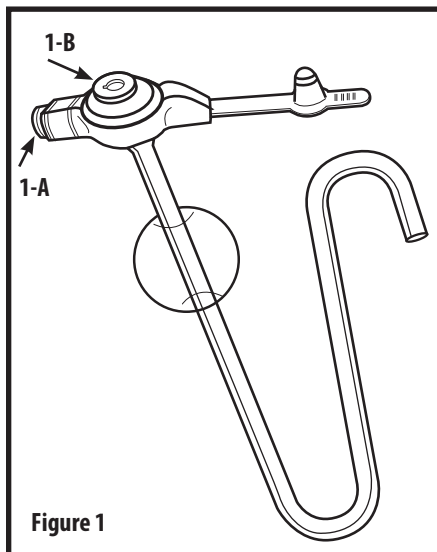

Figure 1
2. Using the 6 ml Luer slip syringe contained in the kit, inflate the balloon with 5 ml sterile or distilled water through the balloon port (**Fig 1-A**).
4. Using a 6 ml Luer slip syringe, flush water through the jejunal port (**Fig 1-B**) to verify patency.